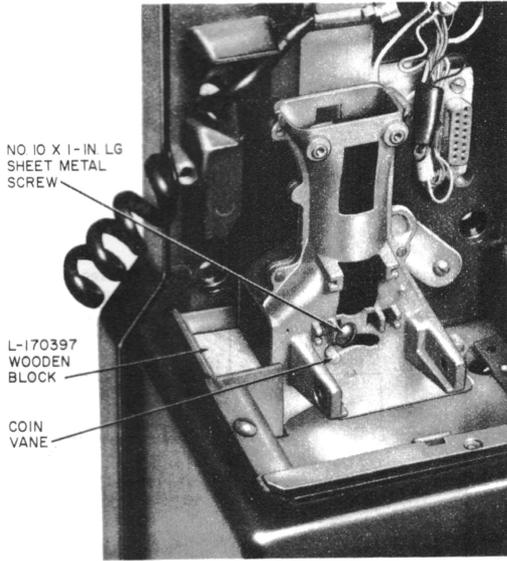

Fig. 3—Partial View of Lower Housing
**2.04** The coin vane has been made stationary in the collect position by installing a No. 10 by 1-inch sheet metal screw through hopper (Fig. 3).
- (b) An L-170397 wooden block (Fig. 3) prevents coins from falling into the return chute.